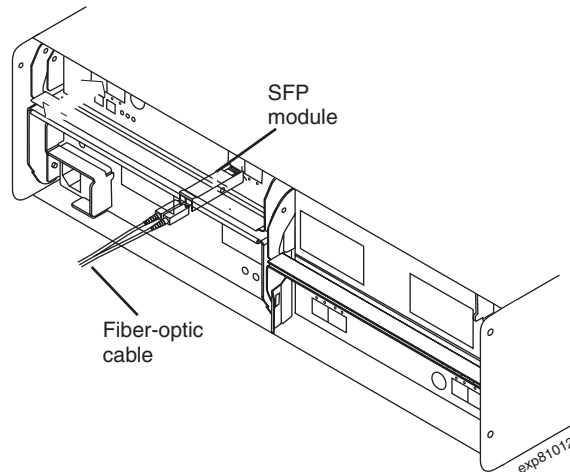

Figure 32. Installing an SFP module and connecting an LC-LC cable to the EXP810
3. Install an SFP module in the SFP port on the back of the EXP810; then, connect the other end of the LC-LC cable into the SFP module, as shown in Figure 32 on page 46.